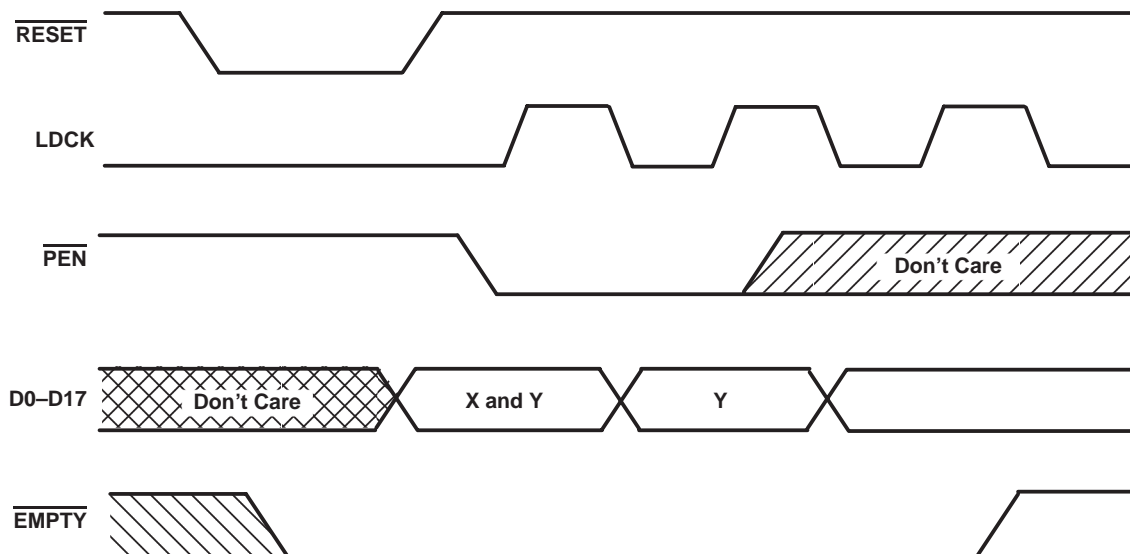

Figure 2. Programming X and Y Separately
To program the offset values, $\overline{\text{PEN}}$ can be brought low after reset. On the following low-to-high transition of LDCK, the binary value on D0–D7 is stored as the almost-empty offset value (X) and the almost-full offset value (Y). Holding $\overline{\text{PEN}}$ low for another low-to-high transition of LDCK reprograms Y to the binary value on D0–D7 at the time of the second LDCK low-to-high transition. Writes to the FIFO memory are disabled while the offsets are programmed. A maximum value of 32 can be programmed for either X or Y (see Figure 2). To use the default values of X = Y = 8, $\overline{\text{PEN}}$ must be held high.